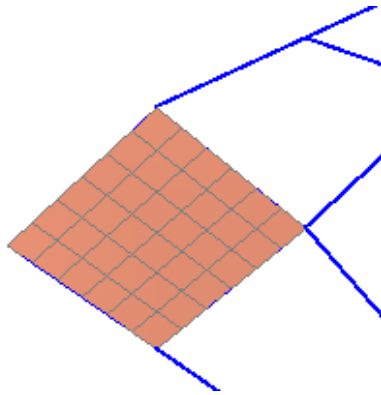

Figure Step 15
Step 15 Set the current visual style to Realistic. (Figure Step 15)